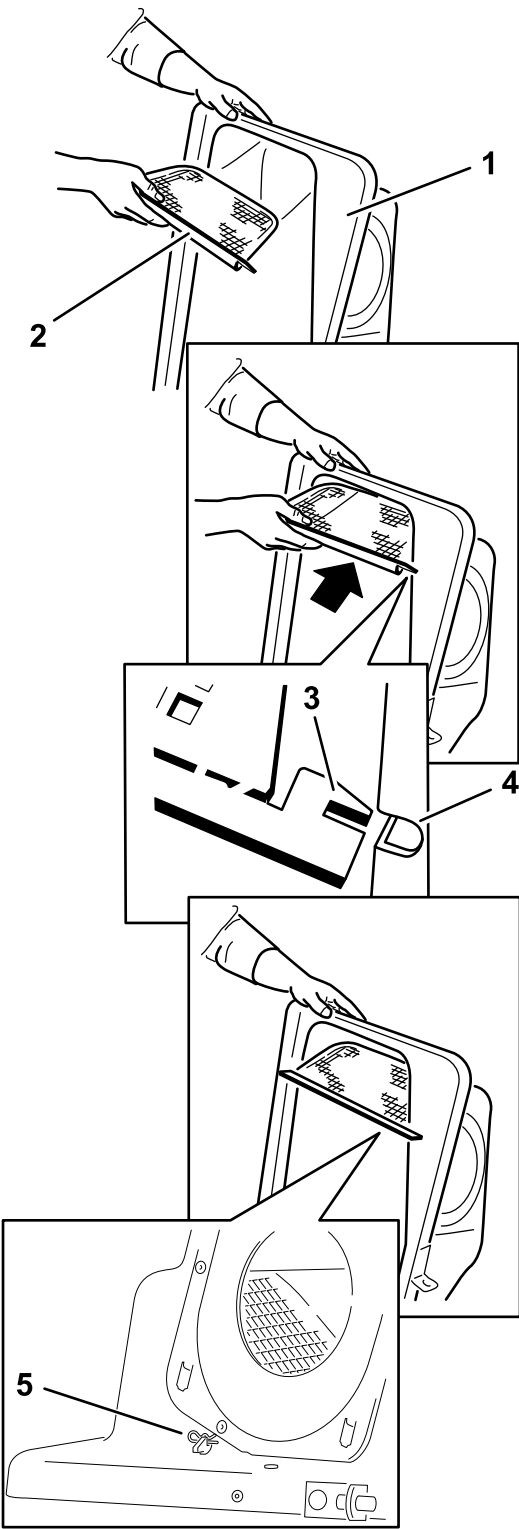

Figure 18
2. Install the screen as shown in Figure 18 and ensure that it slopes down toward the collection bags.